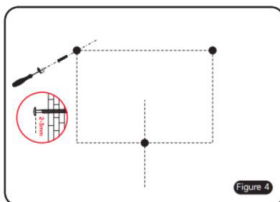

Figure 4
4. Screw the screws in the hole and leave a gap of 2-3mm between the screw cap and the wall. (Figure 4)